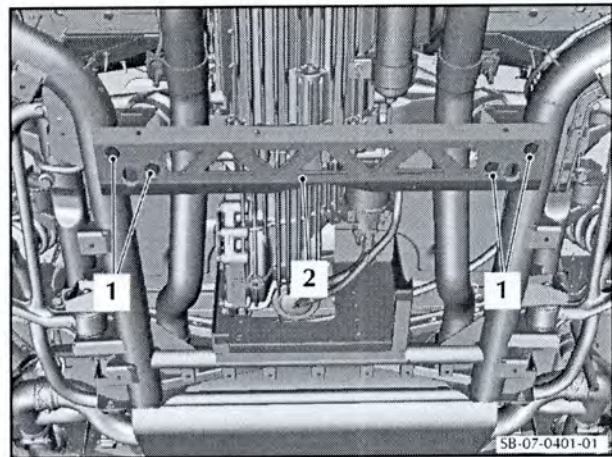

Figure 67
- 130. Hold the cross brace (2) in position (refer to Figure 67).
- 131. Install the four screws (1) that attach the cross brace (2). Torque the four bolts to 71 Nm.